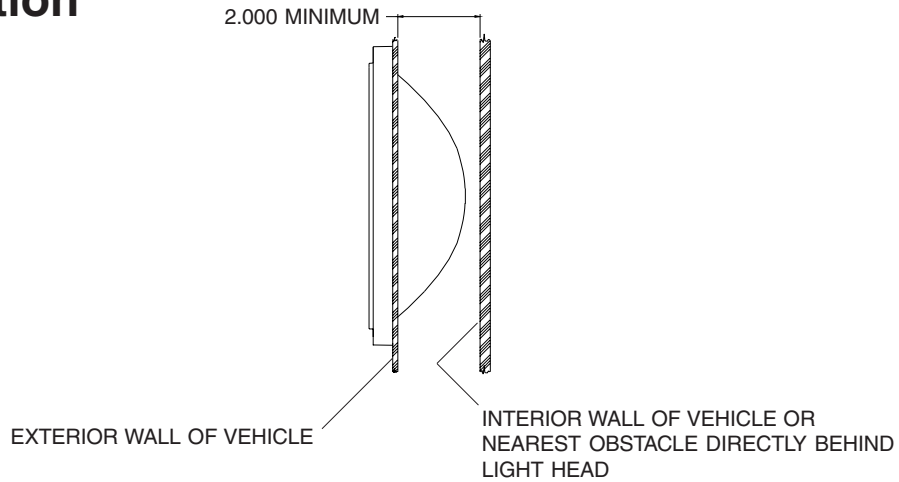

FIGURE 1
2. Verify 2 inches minimum free clearance behind the mounting surface, see Figure 1.